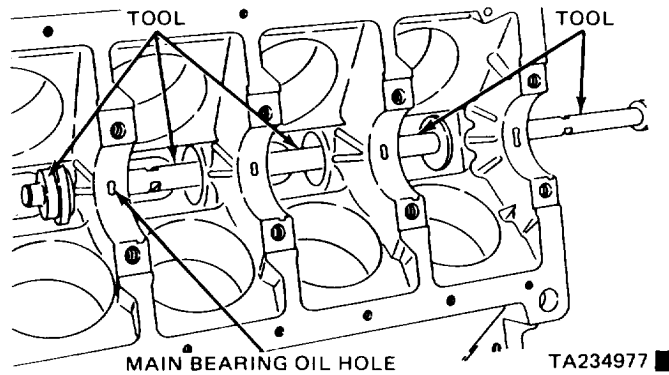

Figure 11-34. Removing Camshaft Bearings.
(1) Drive out the rear cam bearing core plug.
(2) Install the proper size adapters and horseshoe washers (part of tool C-3132-AL) at the back of each bearing shell to be removed, and drive out the bearing shells (figure 11-34).
(3) To install new camshaft bearings, slide the new camshaft bearing shell over the proper adapter of tool C-3132-AL
(4) Position the rear bearing in the tool. Install the horseshoe lock and carefully drive the bearing shell into place.
(5) Install the remaining bearings in the same manner.